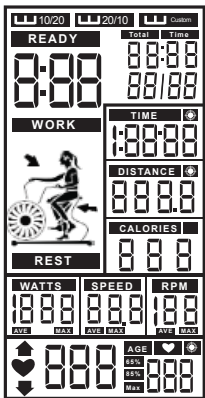
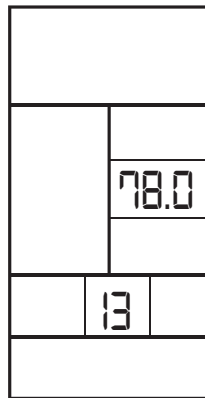
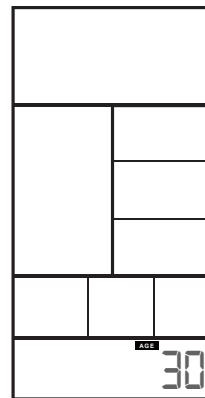

Figure 1
Figure 2
Figure 3
1. When POWER ON, LCD will full display 2s (Figure 1) with long beep sound, then display wheel diameter 1s in DIST area (Figure 2). Then enter into AGE setting mode , the AGE flashing to be set (Figure 3). Press the UP/DOWN to set age and press ENTER to confirm then go to Standby mode.